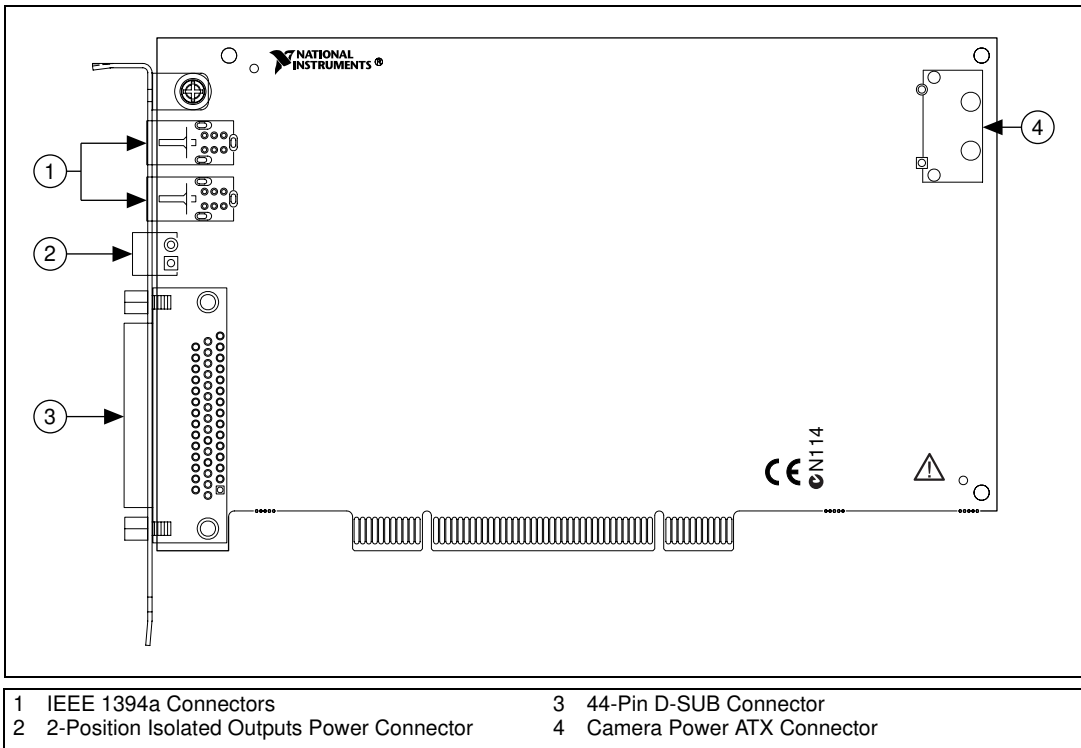

Figure 1. NI 8254R Connectors
11. Connect the IEEE 1394a cable to an IEEE 1394a connector on the NI 8254R front panel. Refer to Figure 1 for the location of the IEEE 1394a connectors on the NI 8254R.
Refer to Figure 1 for information about placement of the connectors on the NI 8254R.